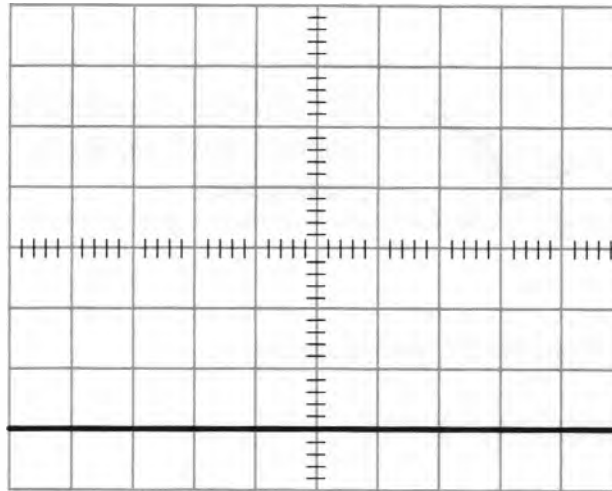

Figure 1
3. Adjust the *Vertical Position* control so that the trace runs along the horizontal line second from the bottom of the graticule (as shown in Figure 1).
6. Draw the trace's new position on the graticule in Figure 1 above.